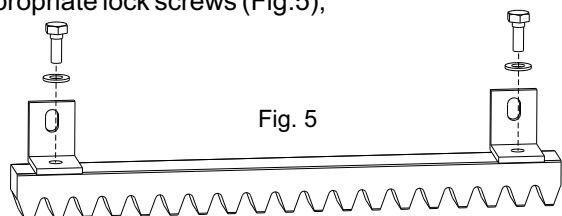

Fig. 5
5.2. Fix to each gear rack element the L-shaped bracket with the appropriate lock screws (Fig.5);